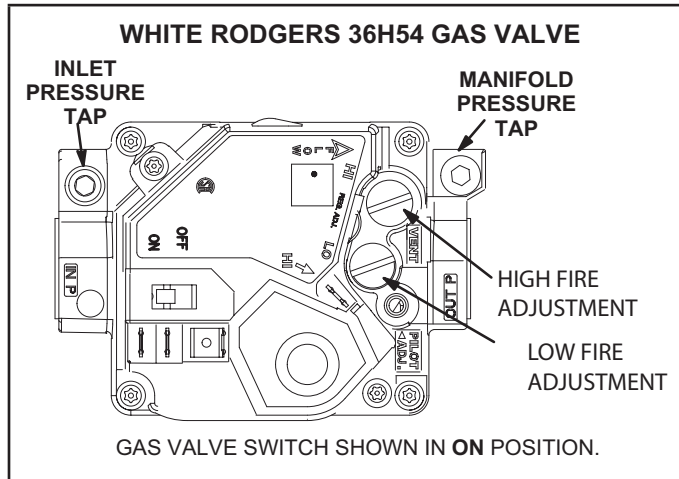
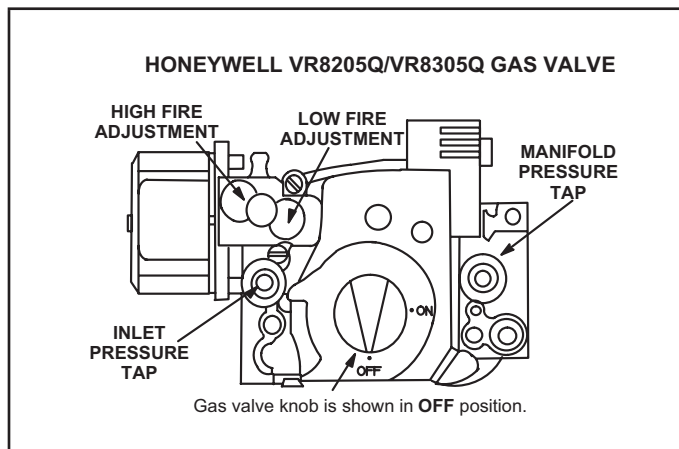

FIGURE 27
FIGURE 28
Gas Valve Operation FIGURE 27 and FIGURE 28
- 5 - Turn gas valve switch to OFF. See FIGURE 27. On Honeywell VR8305Q gas valves, turn the knob on the gas valve clockwise to "OFF". Do not force. See FIGURE 28.
- 6 - Wait five (5) minutes to clear out any gas. If you then smell gas, **STOP!** Immediately call your gas supplier from a neighbor's phone. Follow the gas supplier's instructions. If you do not smell gas, go to the next step.
- 7 - Turn gas valve switch to ON. See FIGURE 27. On Honeywell VR8305Q gas valves, turn the knob on the gas valve counter clockwise to "ON". Do not force. See FIGURE 28.
- 4 - Turn gas valve switch to OFF. See FIGURE 27. On Honeywell VR8305Q gas valves, turn the knob on the gas valve clockwise to "OFF". Do not force. See FIGURE 28.